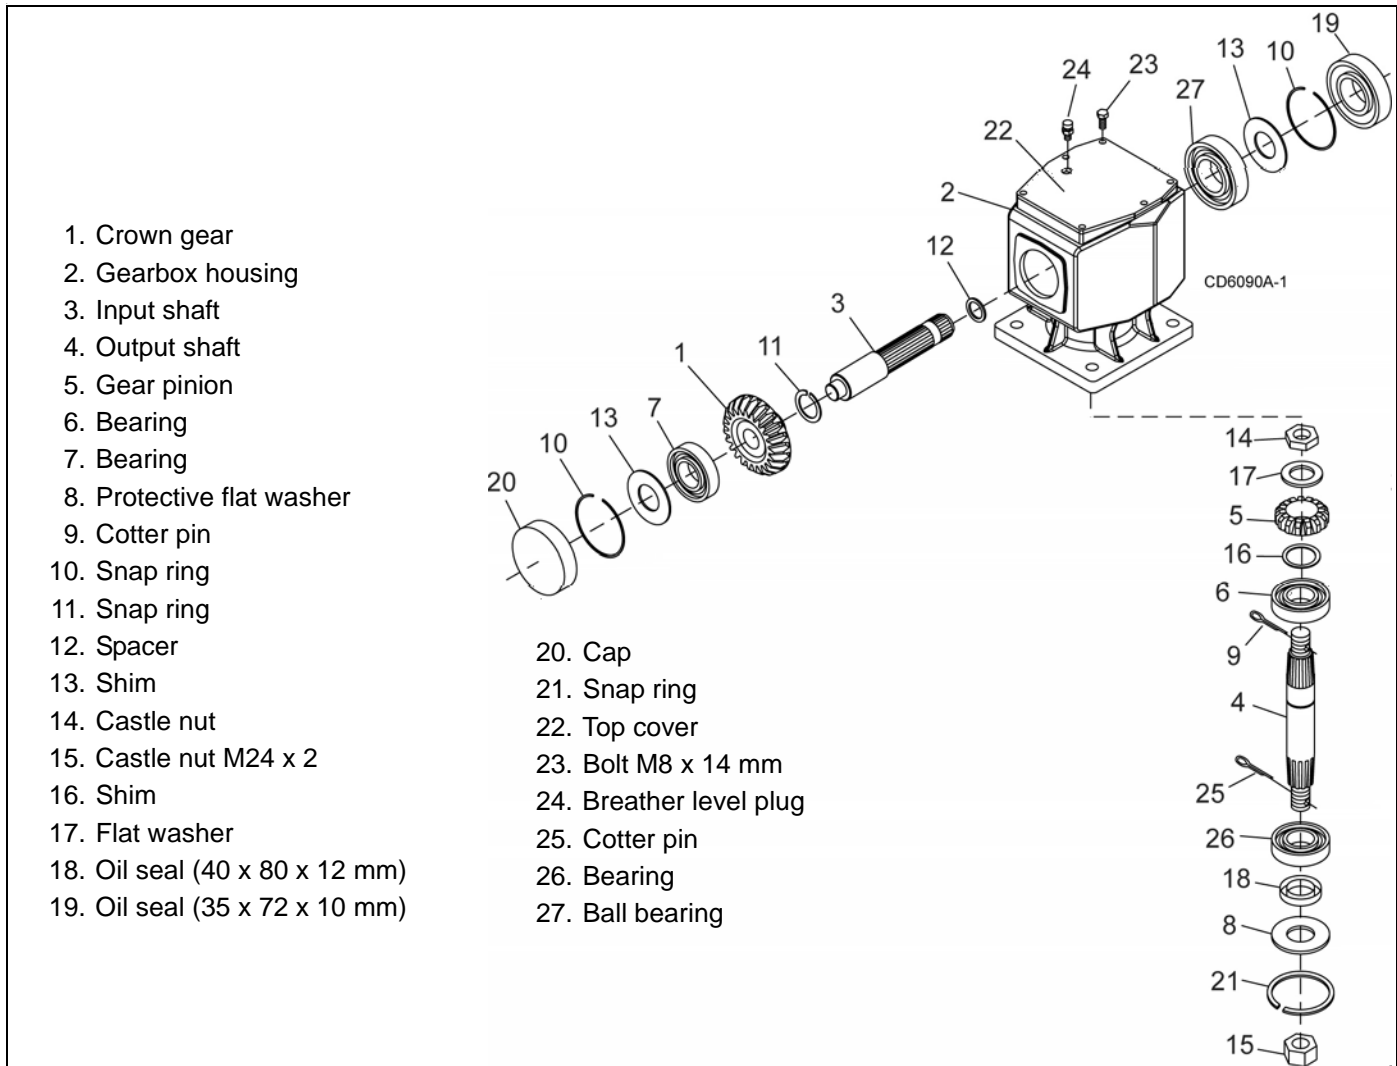

Figure 18. Gearbox Assembly
- Remove vent plug (24). Figure 18, and siphon gear lube from housing through this opening.
- Remove vertical shaft seal (18). Replace with new seal (see Seal Replacement, page 24).
- Remove vent plug (24), Figure 18, and siphon gear lube from housing through this opening.
- If the leak occurred at either end of horizontal shaft, remove oil cap (20) and/or oil seal (19). Replace with new one (see Seal Replacement, page 24).
Refer to Figure 18.